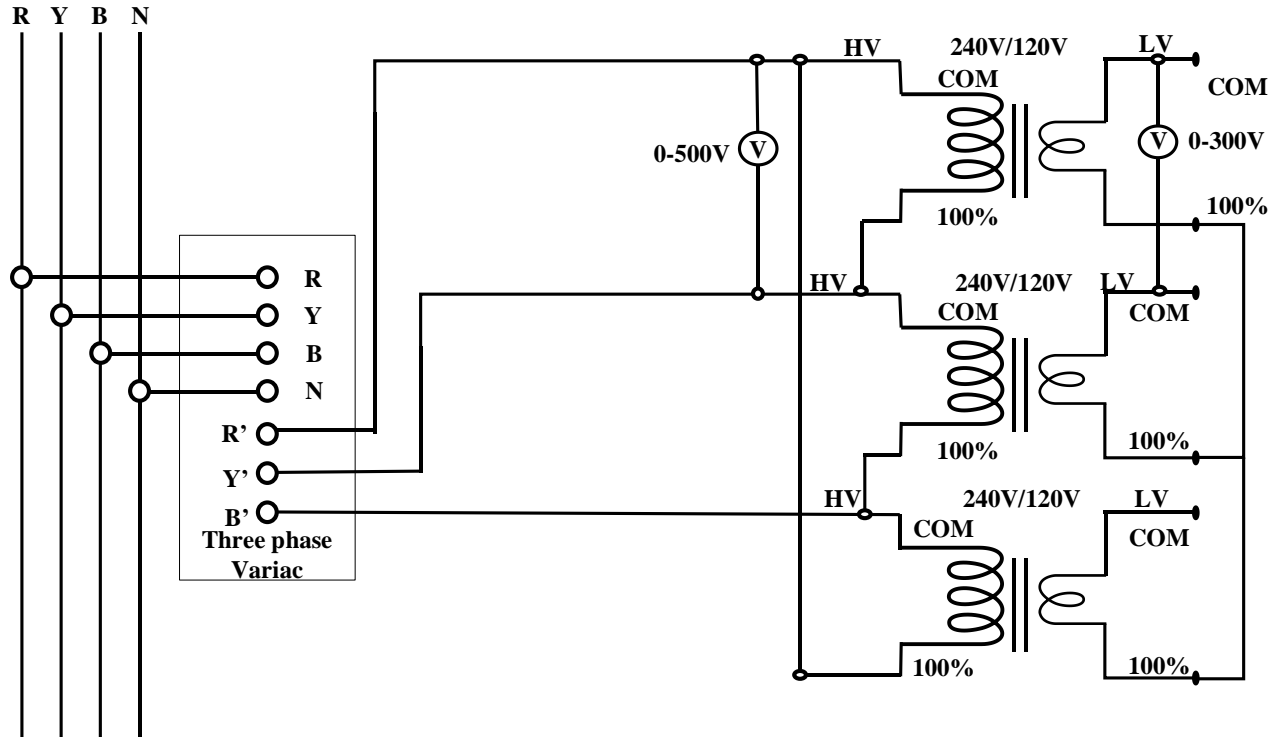

Fig 8: Delta-Star configuration using three single phase transformers Lab set-up.
1. Make the connections as per the circuit diagram given in Fig. 8.